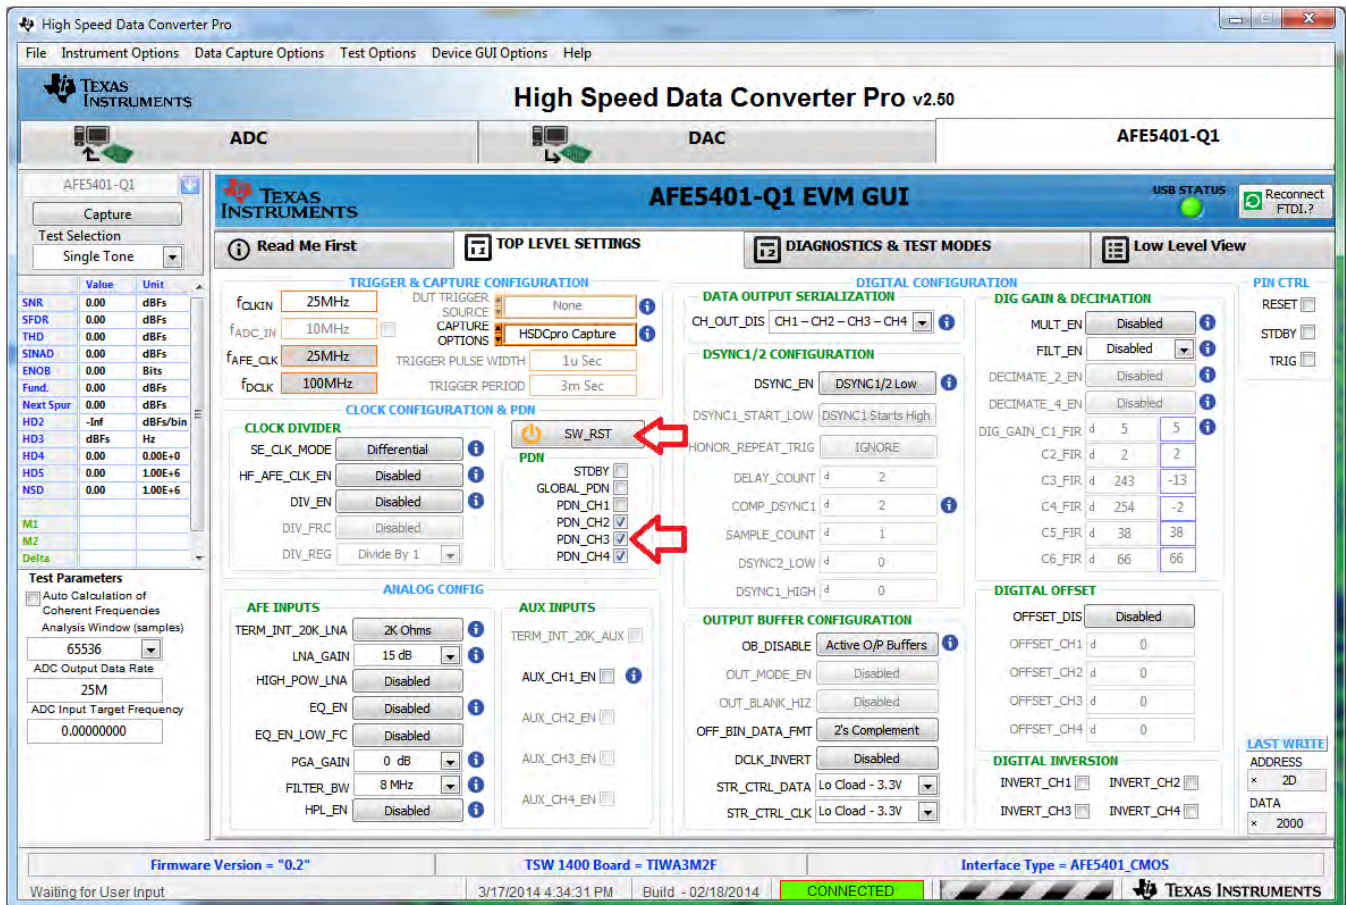
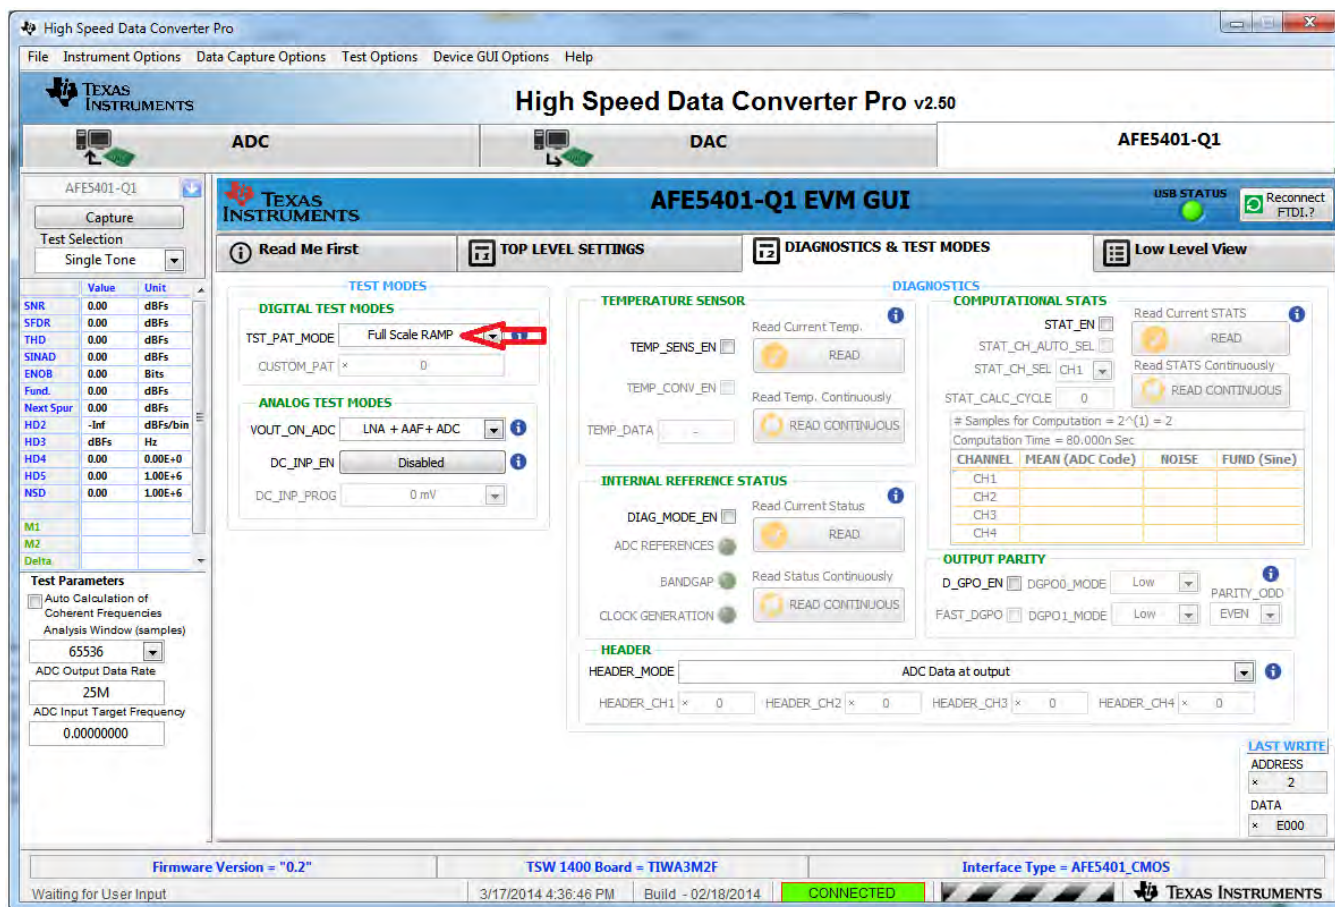

Figure 72. GUI Setup for Blind RAMP Test (a)
Figure 73. GUI Setup for Blind RAMP Test (b)
1. Perform the following steps as highlighted in Figure 72 and Figure 73.